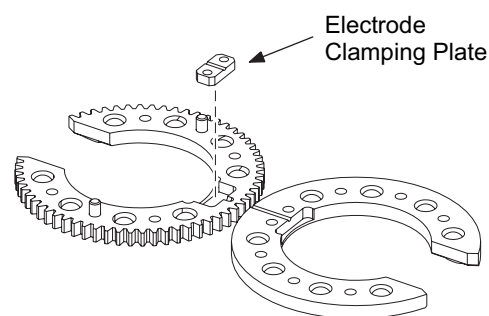

Figure 42 Removing the Electrode Clamping Plate
9. Remove the electrode clamping plate. Clean it with a fine-grit abrasive pad. See Figure 42.